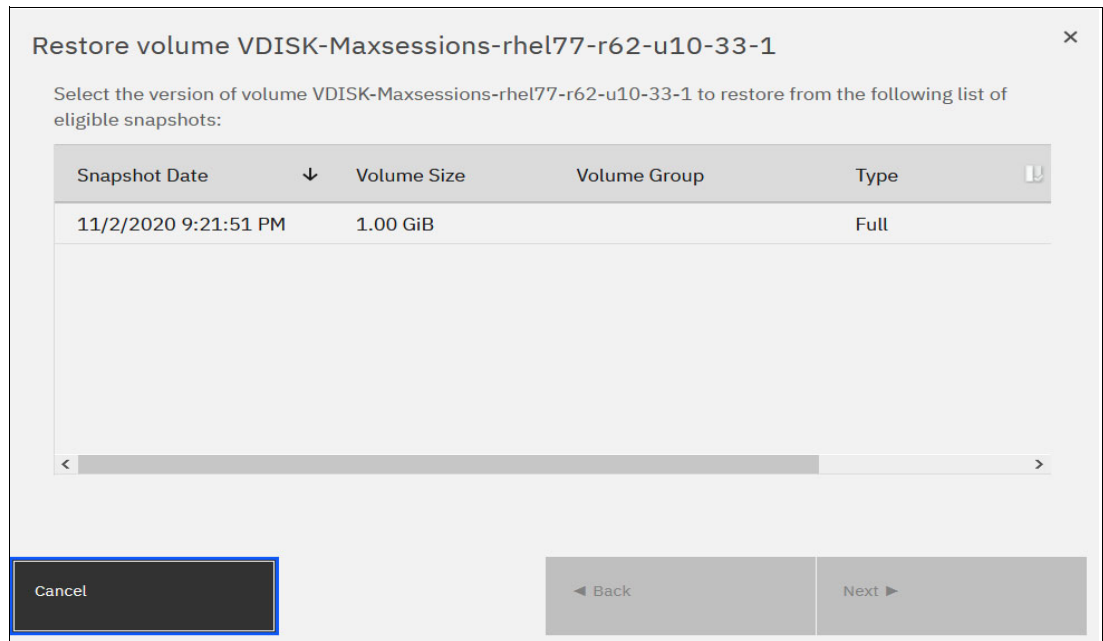

Figure 10-78 Selecting a snapshot version to restore
3. A list of available snapshots is displayed. The snapshots date (PiT), their type (full or incremental), their state, and their size are shown (see Figure 10-78 on page 725). Select the version that you want to restore and click **Next**.